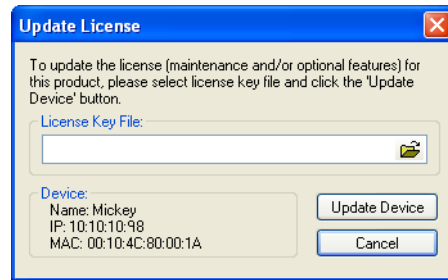

Figure 7.4 Update License Dialog Box
- Step 2 When the License Information dialog opens, click the **Update** button. The Update License dialog box opens (Figure 7.4).